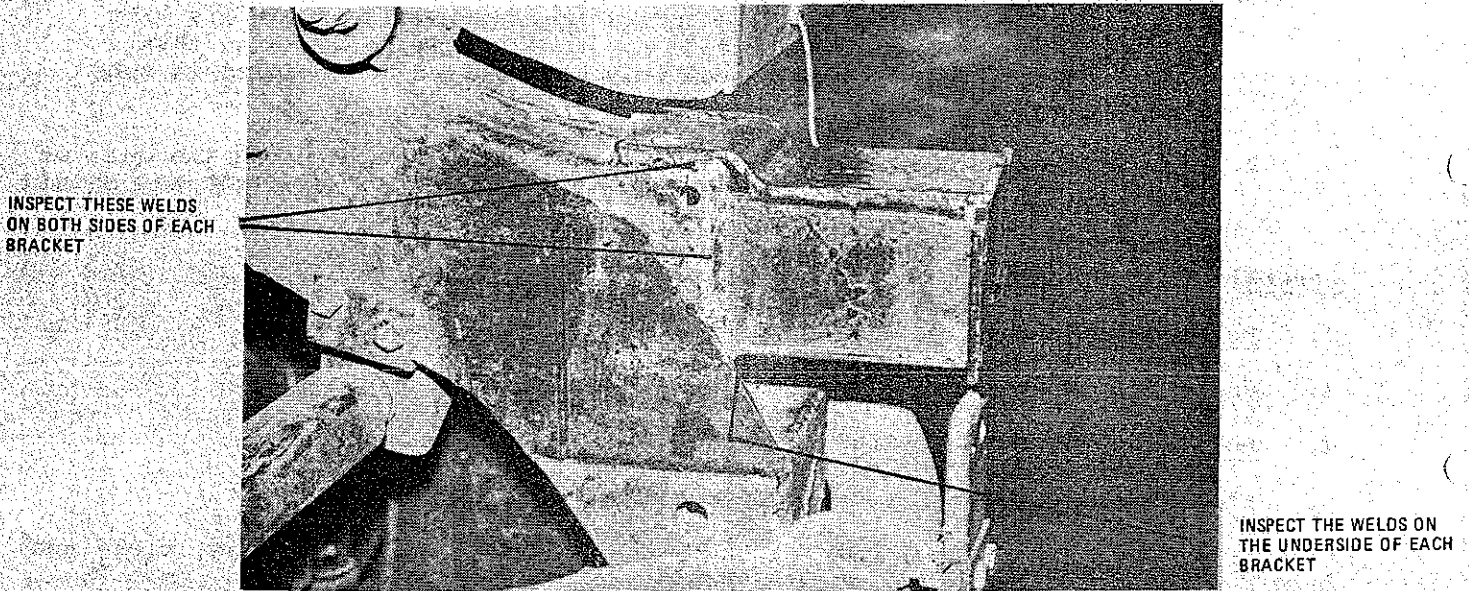

FIG 1 - LH BUMPER BAR MOUNTING BRACKET
- Clean and inspect the condition of all welds securing the bumper bar mounting brackets to the L and RH chassis rails as shown in Fig 1.